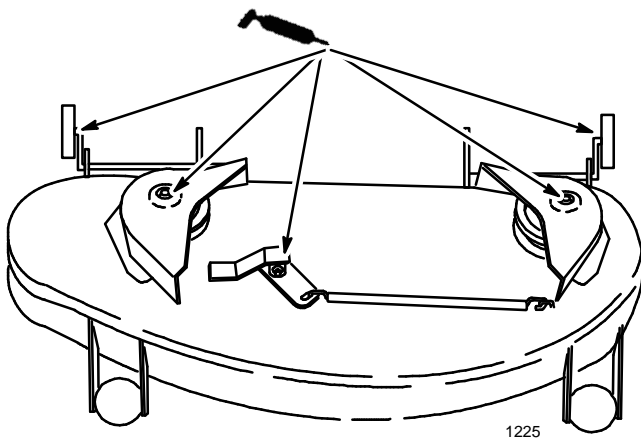

Figure 27
1. Lubricate the blade spindles, idler pulley arm and gage wheel bearings (Fig. 27).